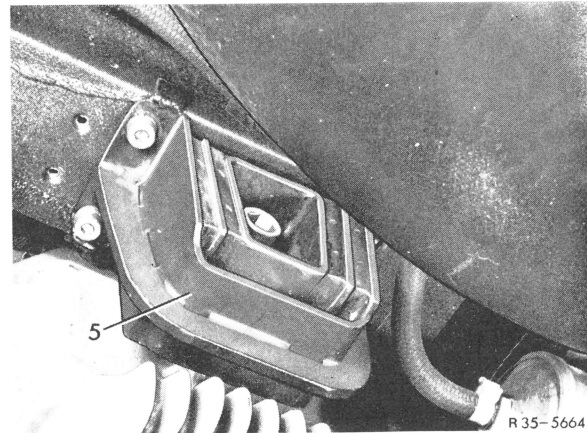

Fig. 2
- Unscrew hexagon socket bolts on frame floor and lower rear axle slightly (Fig. 2).
- Lift rear axle and attach rubber mount to frame floor. Tighten hex. socket bolts to 2,5 kpm (Fig. 2).